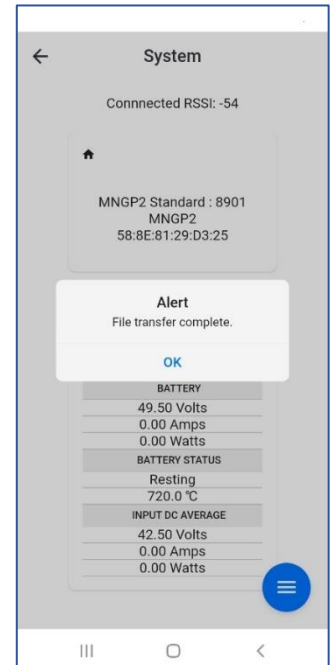

Figure 22
10. FW app will indicate when done, **Figure 22**. Select OK.